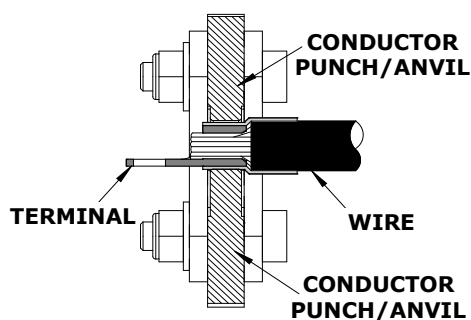

Figure 2
3. Insert the properly stripped wire into the terminal barrel. See Figure 2. Cycle the tool.